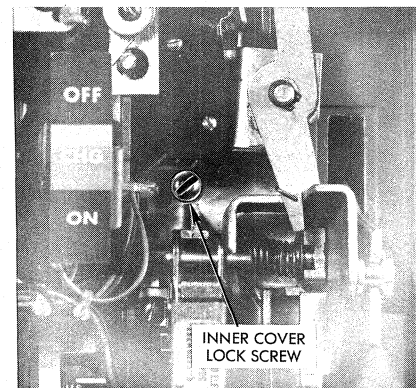

Fig. 8. Inner Cover Lock Screw
- Loosen captive Inner cover lock screw as shown in Fig. 8.
- d. Tighten inner cover lock screw to 10-in.-lbs. max., see Fig. 8.